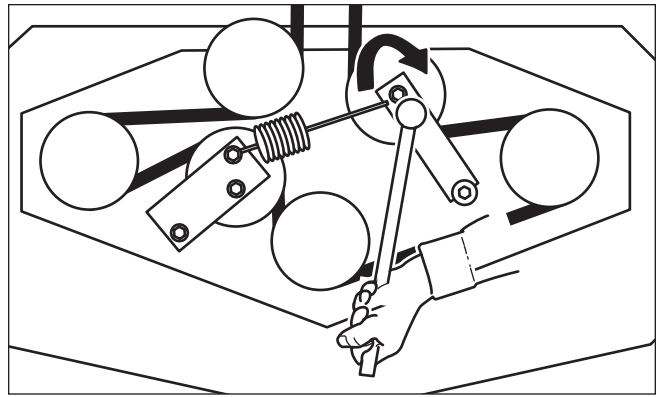

Figure 43. Mower PTO Belt
3. Using a 1/2" breaker bar, place the square end in the square hole located in the end of the idler arm (A, Figures 43). Carefully rotate the breaker bar **CLOCKWISE**, which will relieve the tension on the belt exerted from the idler arm.
6. Install the drive belt on the PTO pulley, the spindle pulleys and all idler pulleys except the stationary pulley (B, Figure 43). Carefully rotate the breaker bar **CLOCKWISE** and install the belt on the stationary idler pulley (B). Carefully release the tension on the breaker bar.